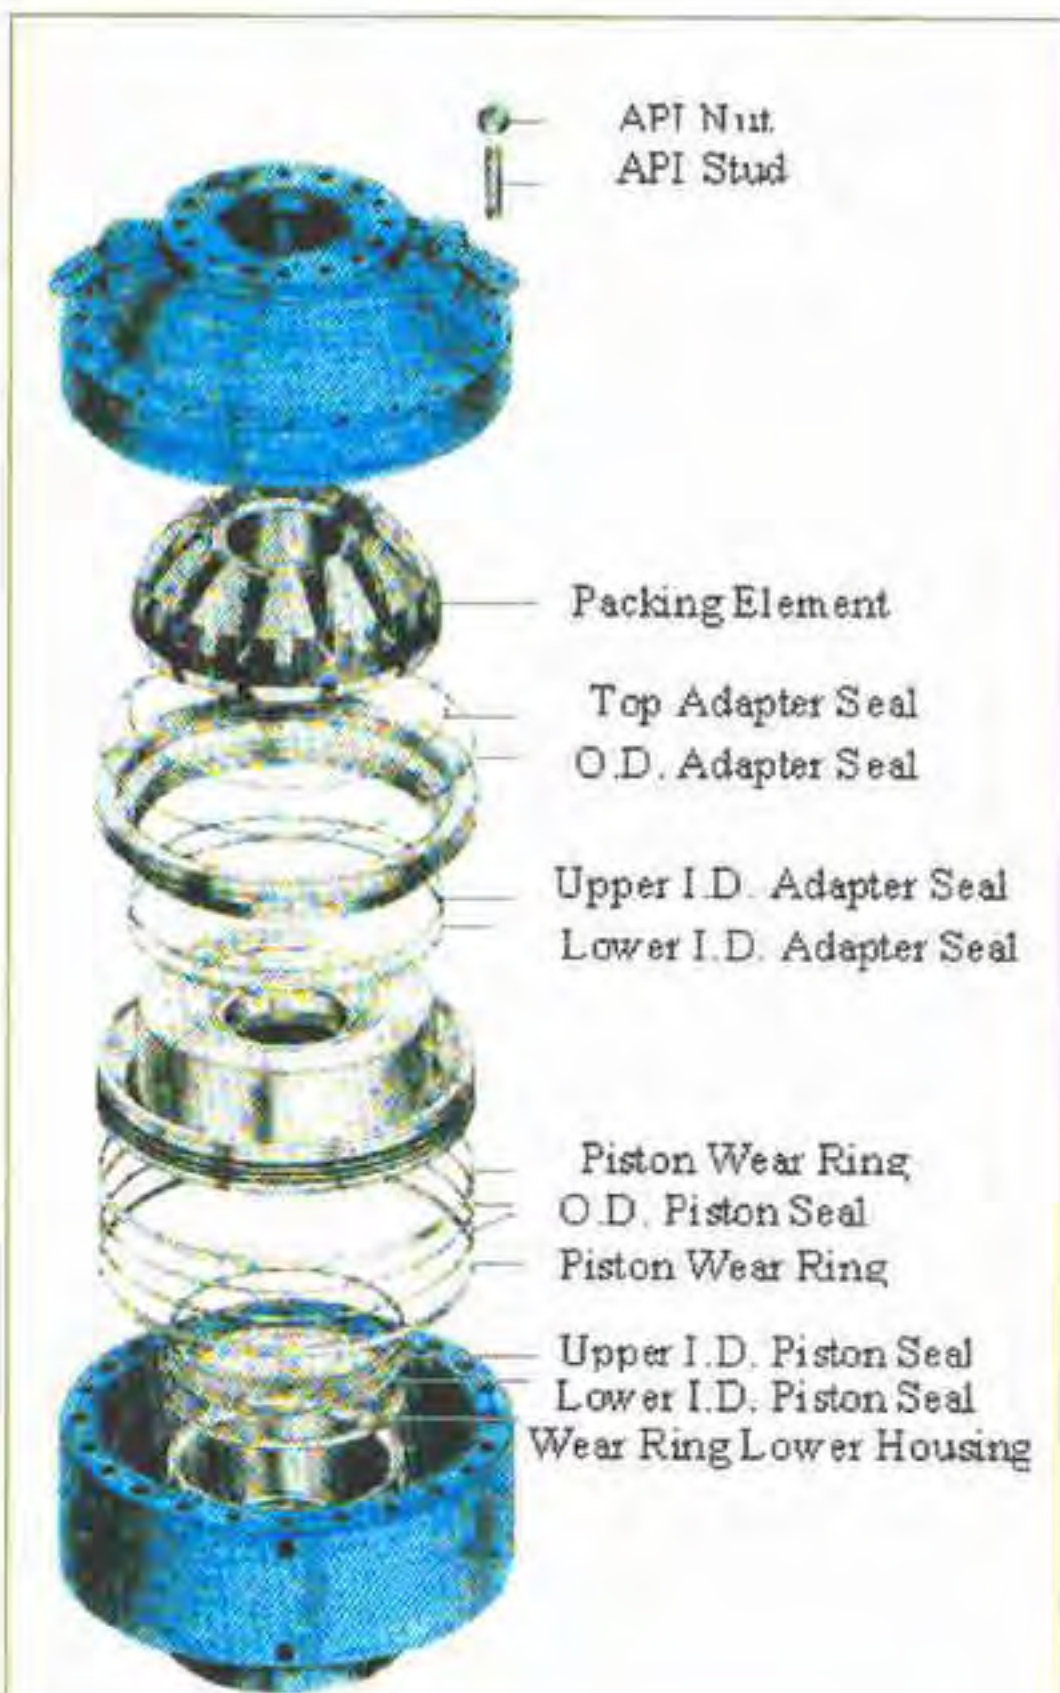

Figure5- Detail of packing unit
If no part of drill stem is in the hole, the annular preventer close on the open hole. Figure 3 illustrates the annular preventer closing on drill pipe (A) and on open hole (B). Detail design of an Annular preventer is show in figure 4. One of the most important parts of annular Bop is packing unit or packing ring. Detail of this equipment is shown in figure5.